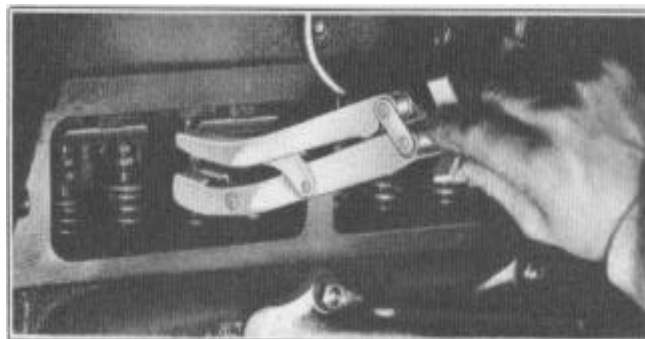

FIGURE 43
10. Using valve lifter KMO-484, remove valve keepers and valves, Figure 43.